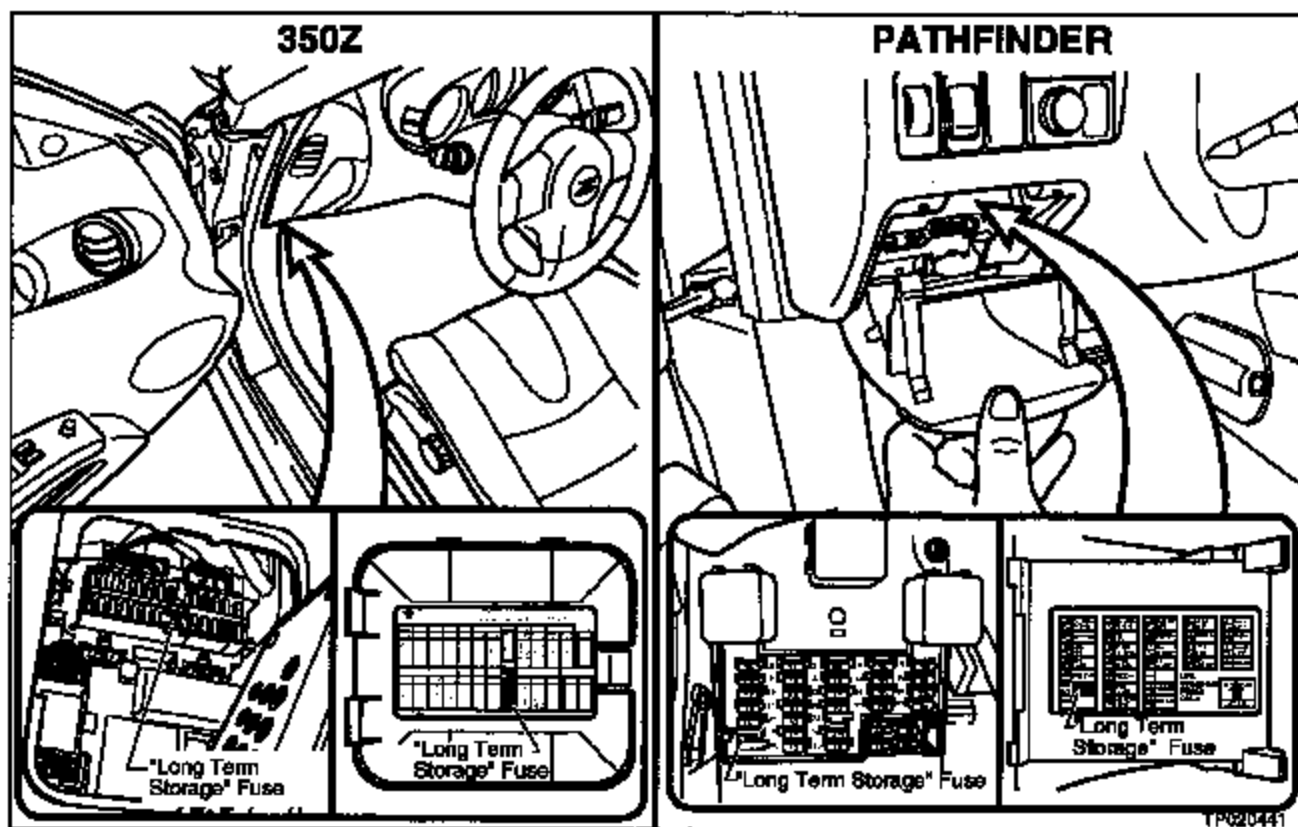

Figure 2
2. **Confirm** the "Long Term Storage Fuse" is installed in the vehicle's fuse panel (see Figure 2).